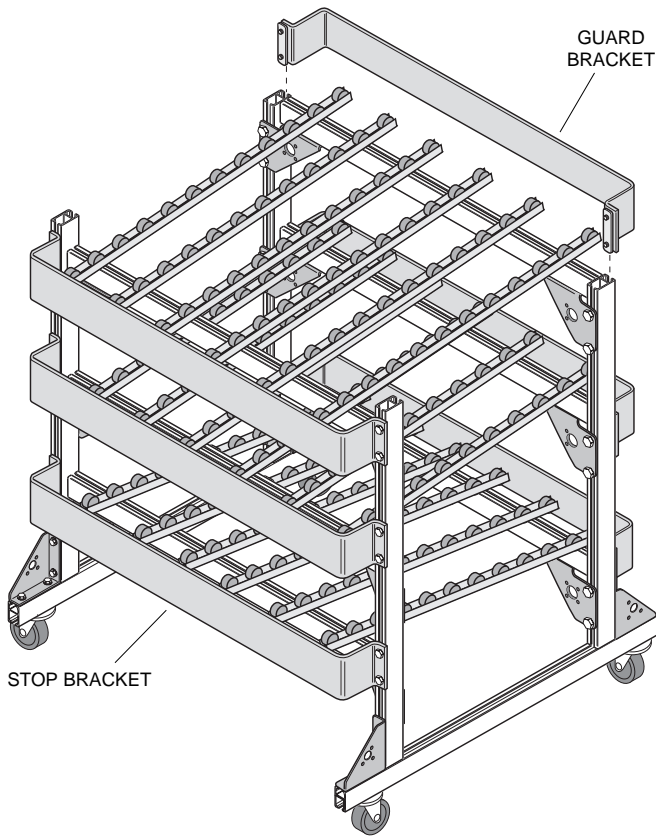

Figure 10.
12. Install stop/guard brackets onto uprights of frame. Slide brackets onto uprights from top (Fig. 10). The top of stop brackets should be positioned 0.75" ABOVE the end rollers on the low end. The top of the guard brackets should be positioned 0.0625" BELOW the end rollers on the high end.